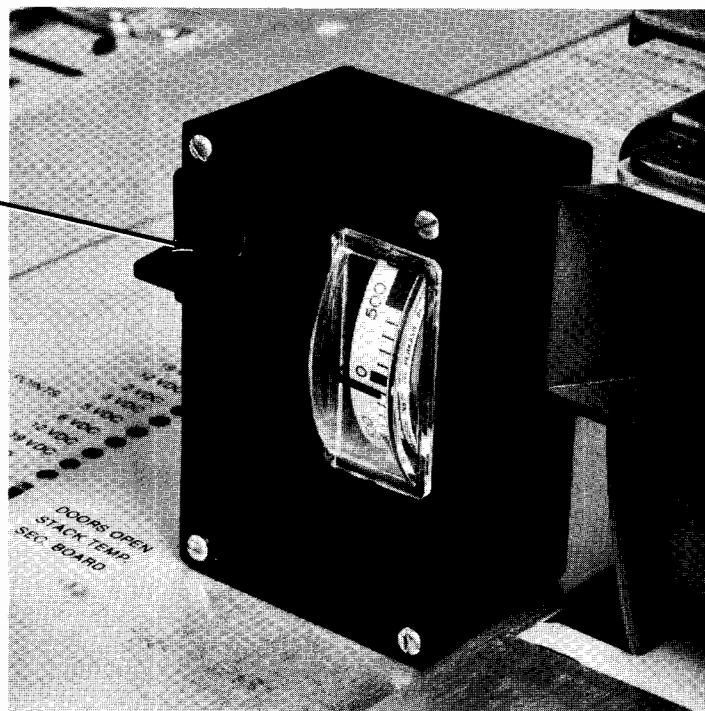

Figure 4-57. Discharging Power Supply Assembly
4. Carefully insert discharge tool pins directly into SAFETY DISCHARGE holes on top of power supply until tool rests on power supply lid (Figure 4-57). Little force is required if tool is straight when inserted. The meter gives an approximate indication of voltage across capacitors.
5. Push discharge tool switch down and hold down to discharge capacitors (Figure 4-57). Discharging takes a few seconds. Meter movement can be observed as switch is held down until capacitors are completely discharged.